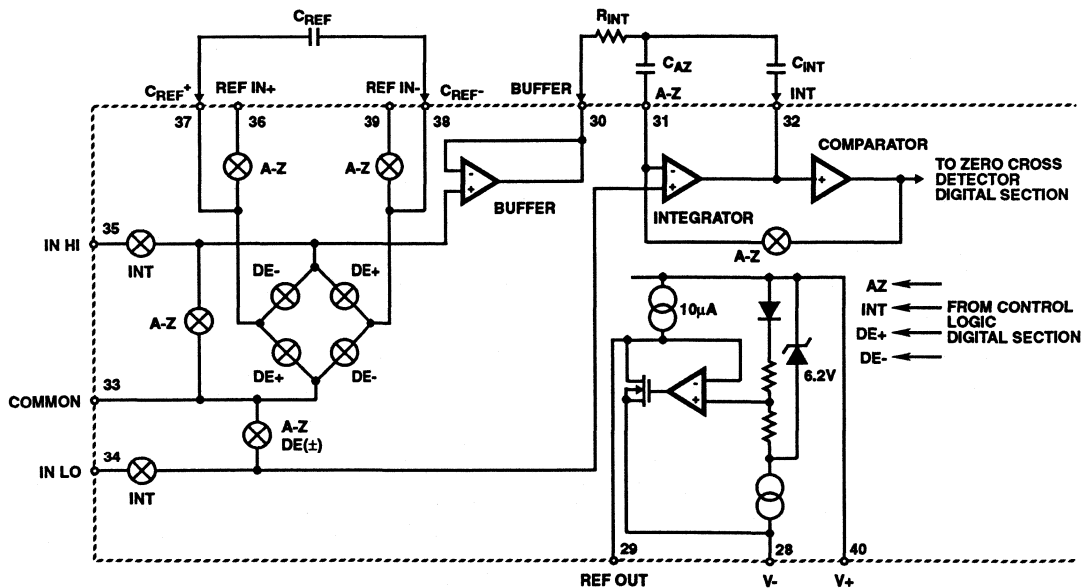
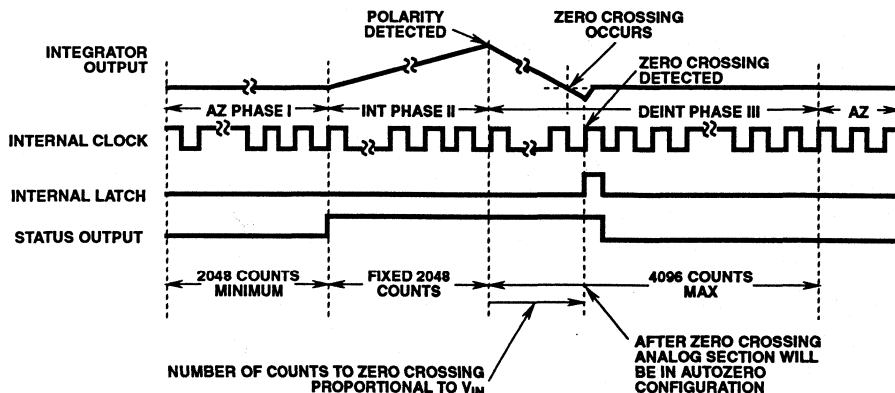

FIGURE 2. ANALOG SECTION OF ICL7109
FIGURE 3. CONVERSION TIMING (RUN/HOLD PIN HIGH)
Figure 2 shows the equivalent circuit of the Analog Section for the ICL7109. When the RUN/HOLD input is left open or connected to V+, the circuit will perform conversions at a rate determined by the clock frequency (8192 clock periods per cycle). Each measurement cycle is divided into three phases as shown in Figure 3. They are (1) auto-zero (A-Z), (2) signal integrate (INT) and (3) de-integrate (DE).
During a conversion cycle, the STATUS output goes high at the beginning of Signal Integrate (Phase II), and goes low one-half clock period after new data from the conversion has been stored in the output latches. See Figure 3 for of this timing. This signal may be used as a "data valid" flag (data never changes while STATUS is low) to drive interrupts, or for monitoring the status of the converter.
portion of the conversion cycle (See Figure 3). In this mode of operation, the conversion cycle will be performed in 8192 clock periods, regardless of the resulting value.